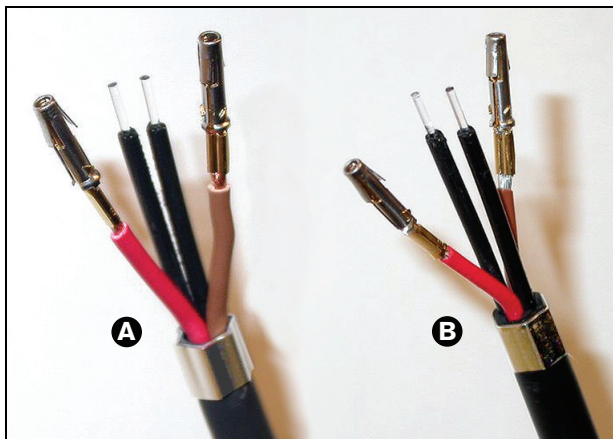

figure 30.20: Stripped optical fibers
- 18 Repeat steps 16 and 17 for the other fiber in the cable. See figure 30.20 for the result of this part of the cable-connector installation procedure.